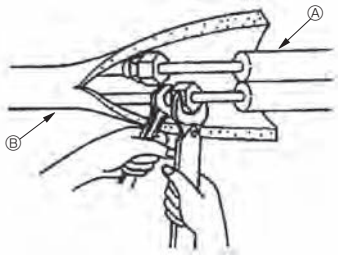

Fig. 4-4
4.4. Refrigerant piping (Fig. 4-4)